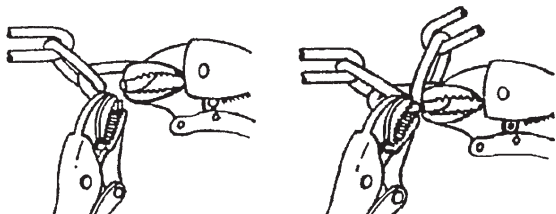

Figure 12
- 2) Connect the hand chain ends together as shown in **Fig 12.** by twisting open the last link on one end of the chain, and slipping the last link on the opposite end onto the open link.